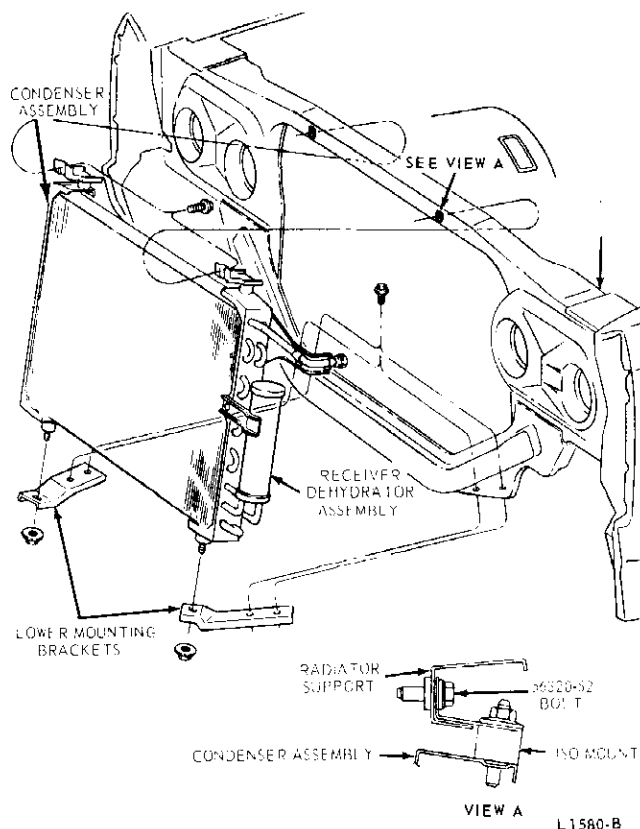

FIG. 48 Condenser Installation
4. Remove two nuts retaining the bottom of the condenser to the lower mounting brackets (Fig. 48).
3. Reach in behind the radiator grille and remove the screw attaching the receiver-drier mounting bracket to the condenser (Fig. 48). Remove the receiver-drier from under the vehicle.